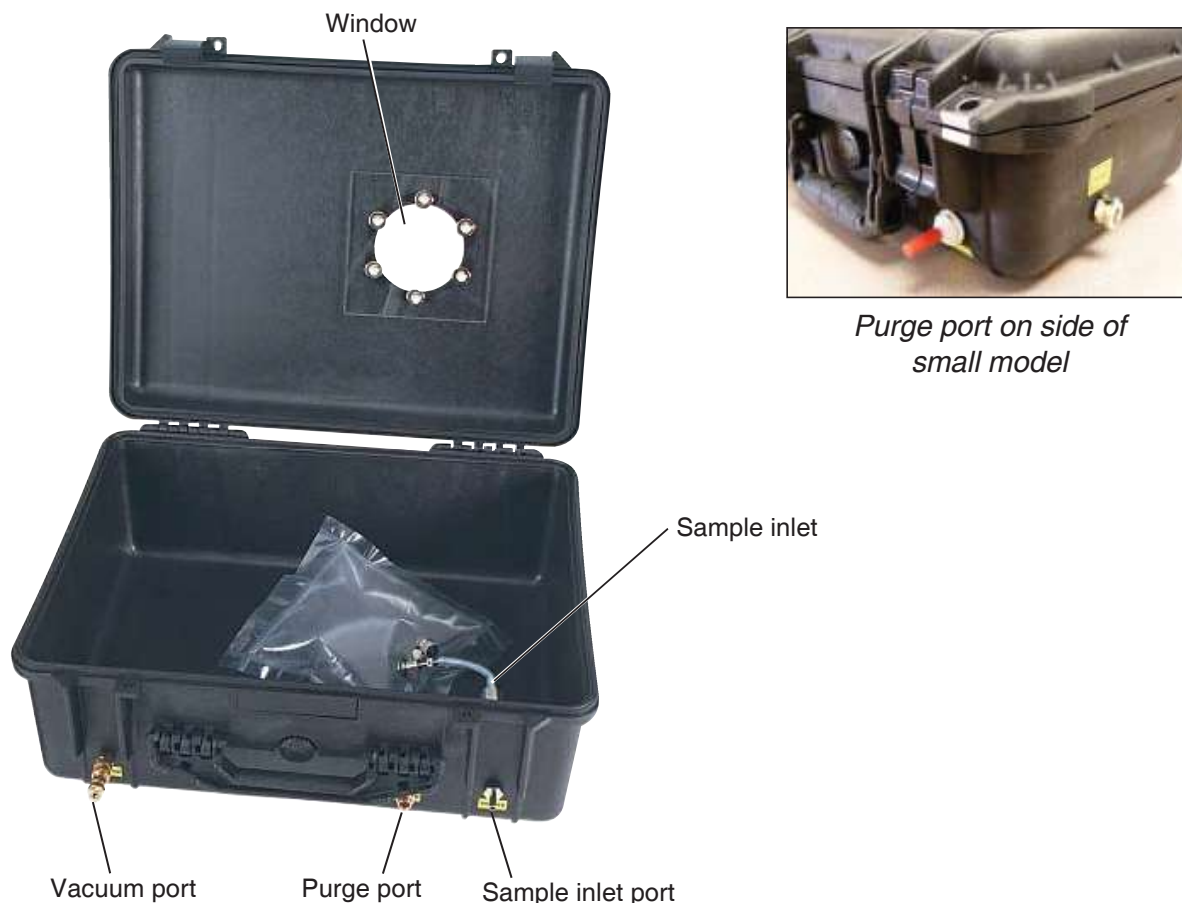

Figure 1. Large Vac-U-Chamber and Ports
The Small Vac-U-Chamber has the vacuum and sample inlet ports on the front and the purge port on the side; the Large Vac-U-Chamber has all three ports on the front (Figure 1). *Note: Designed to contain SKC sample bags.*
3. Push the quick coupling on the end of the supplied Tygon tubing into the purge port (*Figure 1*), and press the open end of the Tygon tubing securely onto the pump inlet.
8. Evacuate the sample bag: with the red cap on the sample inlet port, push the quick coupling on the end of the supplied Tygon tubing into the purge port (*Figure 1*) and press the open end of the tubing securely on the pump inlet. Turn on the sample pump and run it until the bag is completely deflated.
1. Remove the red cap from the sample inlet port (*Figure 1*). Press a long length of PTFE tubing (the sample line) onto the sample inlet port. Connect the loose end of the PTFE tubing to a clean air source.
2. Align and push the quick coupling on the end of the supplied Tygon tubing into the purge port (*Figure 1*). Press the open end of the Tygon tubing securely onto the pump inlet.
1. To use your Vac-U-Chamber to make a standard, connect a source of 99.99% nitrogen OR purified air to the sample inlet port (*Figure 1*).